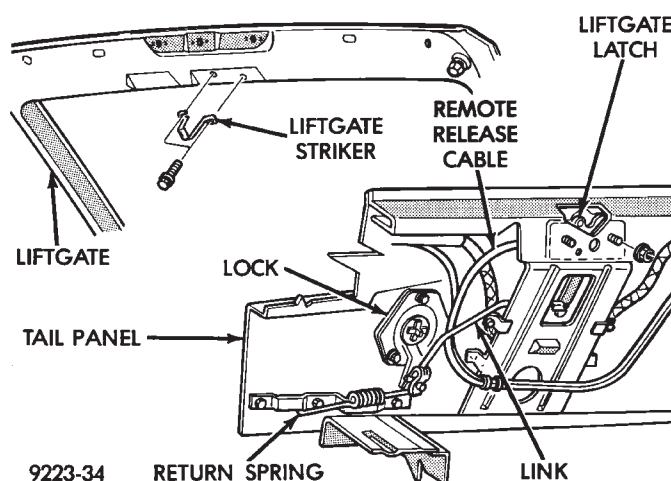

Fig. 42 Lift Gate Latch and Striker
LIFT GATE LATCH REMOVAL (FIG. 42)
LIFT GATE STRIKER REMOVAL (FIG. 42)
- (1) Raise lift gate to the full open position.
- (2) Remove luggage compartment tail trim panel.
- (3) Disconnect linkage return spring (Fig. 42).
- (4) Disconnect linkage rod from lift gate lock arm.
- (5) Remove bolts holding lift gate lock to tail panel.
- (6) Separate lock from tail panel.